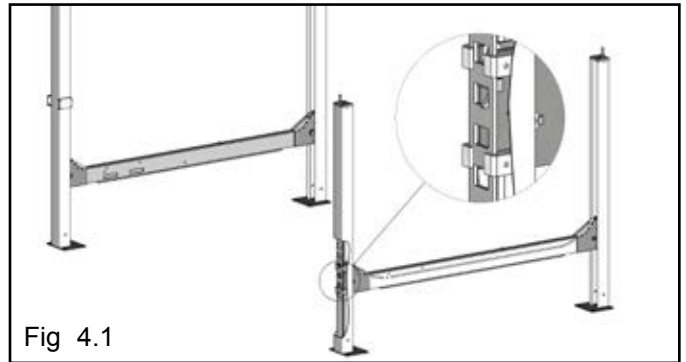

Fig 4.1
2. Manually raise the Crosstubes until the Primary Safety Locks engage and rest on the third or fourth lock position or approximately 24" off the ground. (See Fig 4.1)